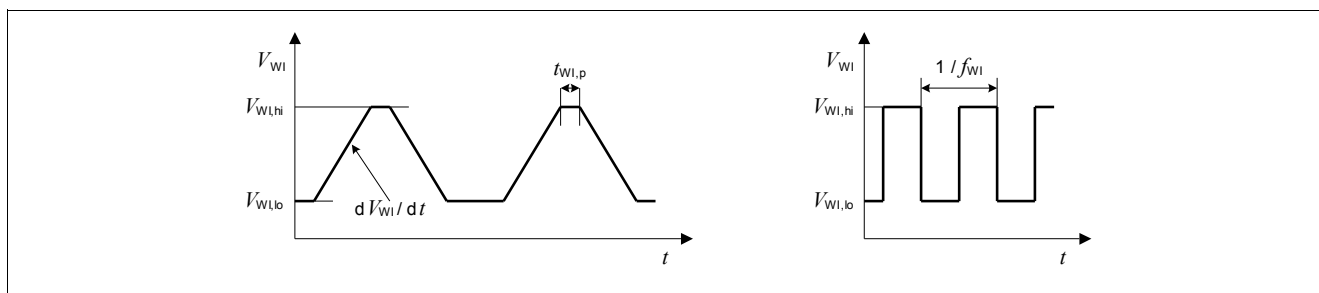

Figure 10 Test pulses watchdog input WI
The watchdog is triggered by a positive edge at the watchdog input “WI”. The signal is filtered by a band-pass filter and therefore its amplitude and slope have to comply with the specification P_8.2.10 to P_8.2.14. For details on the test pulse applied, see Figure 10.
- 2) For details on the test pulse applied, see Figure 10.